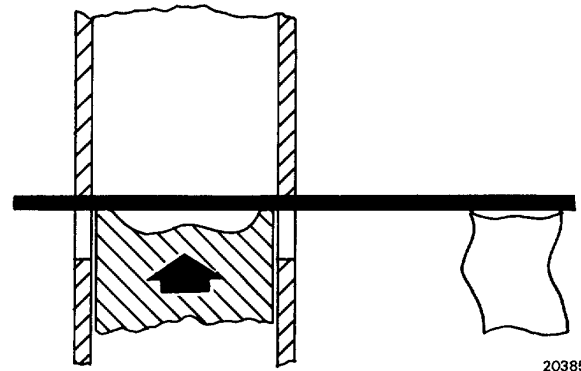

Fig. 7-15 - Piston Travel Limited By "Stop-Bar"
4. Manually bar the engine slowly in the normal direction of rotation until piston travel is stopped by the bar against the upper surfaces of the cylinder ports, Fig. 7-15.
6. Manually bar the engine slowly in the opposite direction from normal rotation until piston travel is again stopped by the bar against the upper surfaces of the cylinder ports, Fig. 7-15.